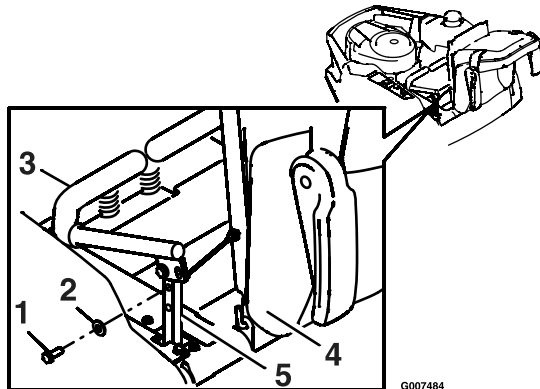

Figure 2
1. Remove the bottom 3/8 x 1 inch bolt and spring disc washer from the control arm shaft. Loosen the upper 3/8 x 1 inch bolt and spring disc washer in the control lever so that the lever can rotate Figure 2.